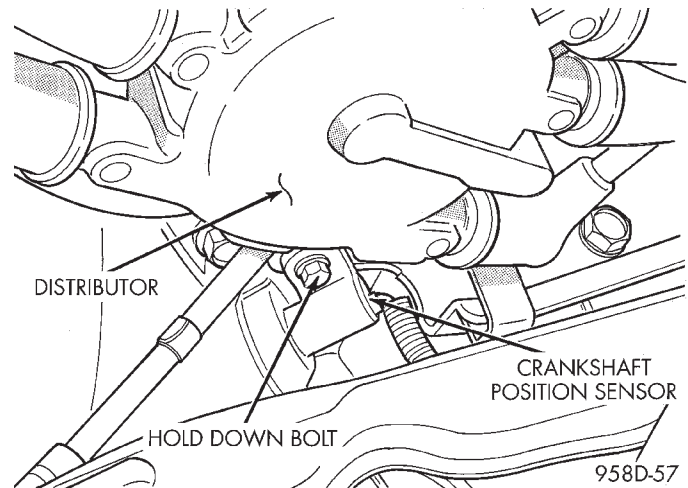

Fig. 46 Crankshaft Position Sensor
- (1) Remove speed control servo from driver's side strut tower.
- (2) Remove crankshaft position sensor retaining bolt (Fig. 46).
- (3) Pull crankshaft position sensor straight up out of the transaxle housing.